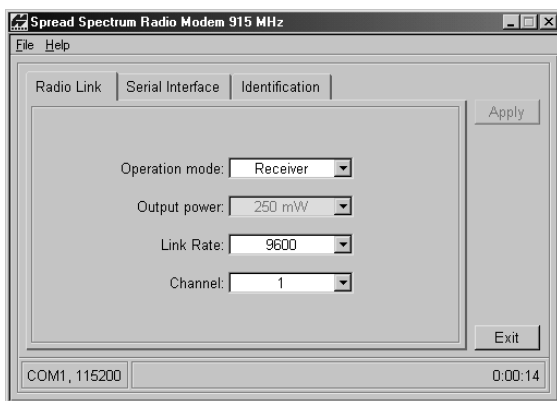

Figure 2-29. Modem-TPS Radio Link Tab
4. On the Radio Link tab, enter the following information and click **Apply** (Figure 2-29 on page 2-32).